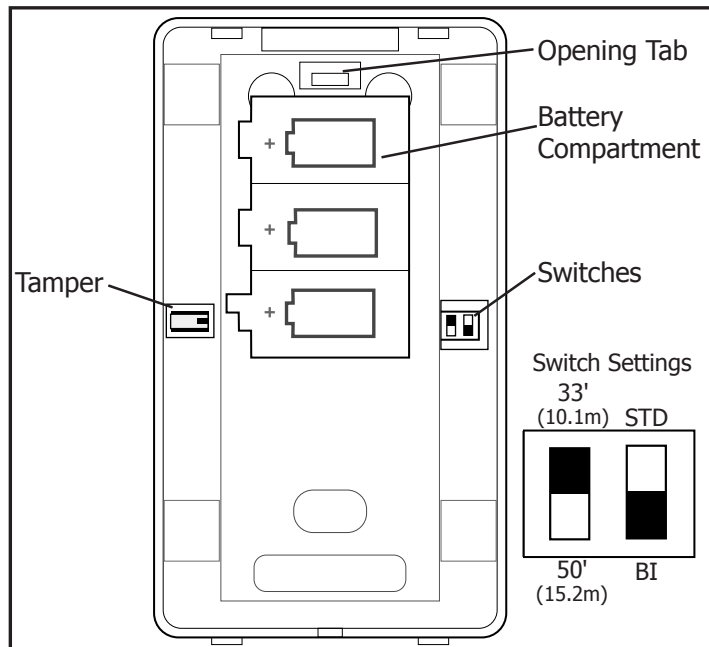

Figure 6: 1125 PIR Switches
Use the switches located on the unit back to set sensitivity and range, as shown in Figure 6. Use the following to determine the appropriate switch settings for an application.
3. Observe polarity and insert the three lithium batteries into the battery holder where indicated in Figure 6.